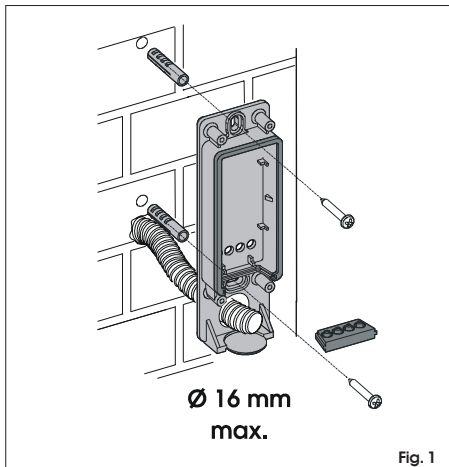

Fig. 1
- 1- Wall with embedded tube (fig.1).